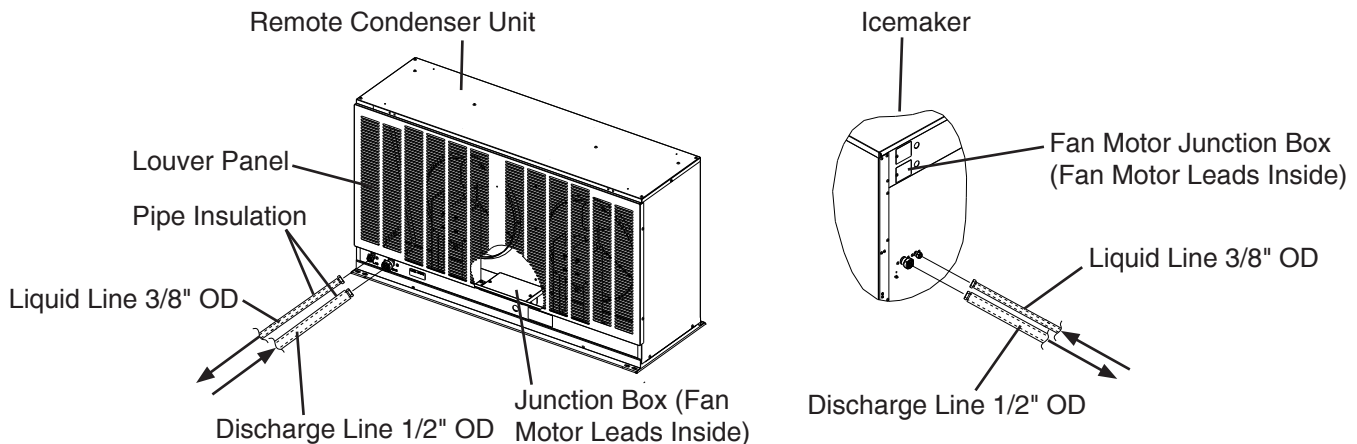

Fig. 11
- 1) Route the factory line set (1/2" OD discharge line and 3/8" OD liquid line) from the remote condenser unit to the icemaker. See Fig. 11. Factory fabricated line sets are precharged and do not need to be evacuated.
- 1) Route a 1/2" OD copper tube discharge line and a 3/8" OD copper tube liquid line between the remote condenser unit and the icemaker. See Fig. 11.